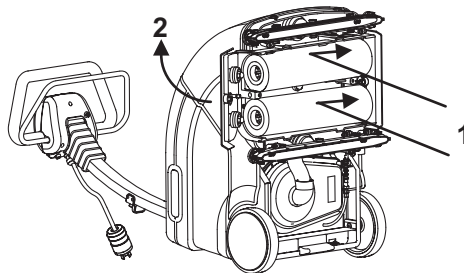

Fig. 2
- Loosen screw and fix the brushes manually as represented in Fig. 2 in direction 1.